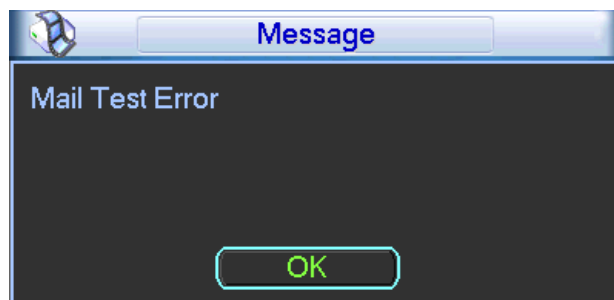

Figure 5-25
- Interval: Please check the above box to enable this function and then set the corresponding interval. System can send out the email regularly as you set here. Click the Test button, you can see the corresponding dialogue box to see the email connection is OK or not. See Figure 5-25.